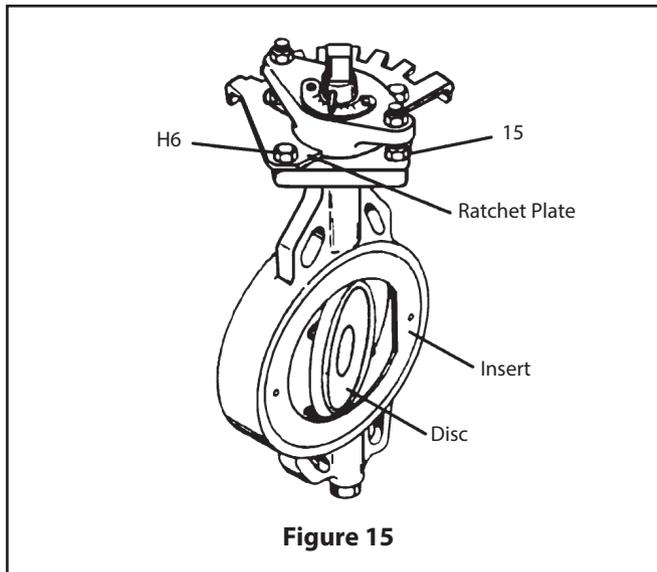

Figure 15
11. If the handle ratchet plate or the actuator base plate has been removed from the valve, reinstall it in the orientation shown in (Figure 15 or Figure 18). Install lockwashers and screws in the two bonnet holes not used by the studs and install the lower lockwashers (16) and nuts (15) on the studs. Do not tighten the screws and nuts until the stops are set (see **SETTING ADJUSTMENTS** Section).
12. Install blowout spacer (75) (3", 4" and 6" [DN 80, 100 and 150] 860 **ONLY**). Place the compression plate (10) over the shaft (4) and studs (14). Orient the plate so that the indicator pointer will be over the indicator plate. Install the lockwashers (16) and nuts (15), but do not tighten. Install the indicator pointer in the shaft.
13. Install the lower bearing spacer (43), when applicable. Place the plug seal (42) in the recess at the bottom of the valve and install the plug (11). Torque the plug until it is flush with the body. A small (1/16" [1.6 mm]) tack weld on the corner of the plug is recommended. **CAUTION:** A larger tack weld is apt to have enough heat to damage the seal.
If it is necessary to orient the actuator in a different quadrant (**Figure 15 and 16**):
7.3 Setting Handle Stop (Figure 15)